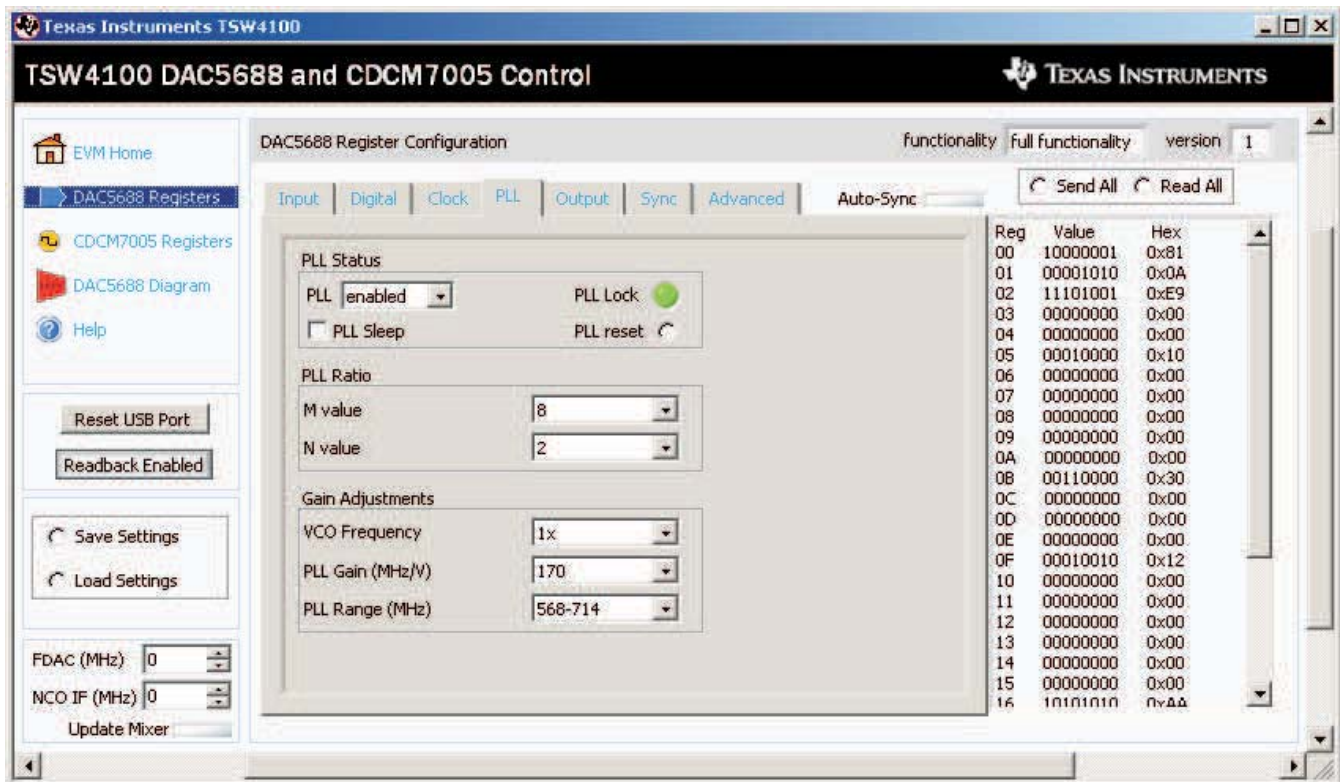

Figure 16. DAC5688 Interface
Navigate to the directory (**C:\Program Files\Texas Instruments\TSW4100GUI\CDCandDACregisters**) and select the file **TSW4100_DAC_CDC_example_1.txt**. The GUI loads both the DAC5688 and CDCM7005 with the settings contained in this file every time the *Load Settings* function is used. After the DAC5688 is configured, the user must make sure the internal PLL is locked. To verify this, click on the *DAC5688 Registers* button in the top, left-hand corner of the GUI. Click on the *PLL* tab. The GUI shall now look as shown in Figure 16. If the PLL Lock indicator is **Green**, the DAC5688 has been loaded properly and is ready for operation. If the indicator is **Red**, indicating the PLL is not locked, press the DAC5688 reset switch SW5, then click on the *Auto-Sync* button on the top right side of the GUI. If PLL Lock indicator still does not turn **Green**, press the DAC Reset button SW5 on the TSW4100 and reload the DAC and CDC settings. The PLL Lock Indicator must be **Green** for the DAC5688 to be working properly.
5. Click on the *PLL* tab. The GUI display shall now look as shown in Figure 16. In this window, the user can change the PLL mode, view the PLL status, change the PLL Ratios and PLL Gain settings. After the DAC5688 and CDCM7005 have been configured, make sure that the PLL Lock indicator on the GUI turns from **Red** to **Green**. If this does not work, click on the *Auto-Sync* button on the top right side of the GUI. If PLL Lock indicator still does not turn **Green**, press the DAC Reset button SW5 on the TSW4100 and reload the DAC and CDC settings. The PLL Lock Indicator must be **Green** for the DAC5688 to be working properly.